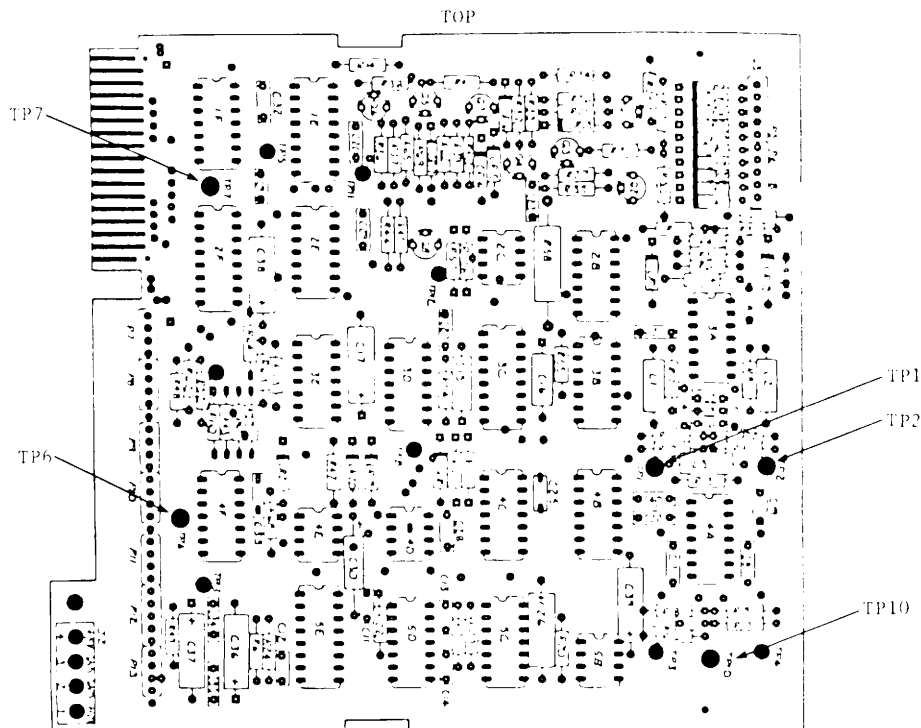

Figure 5-3. Tandon Floppy Drive PCB Test Point Locations
See Figure 5-3 for Test Point (TP) locations.